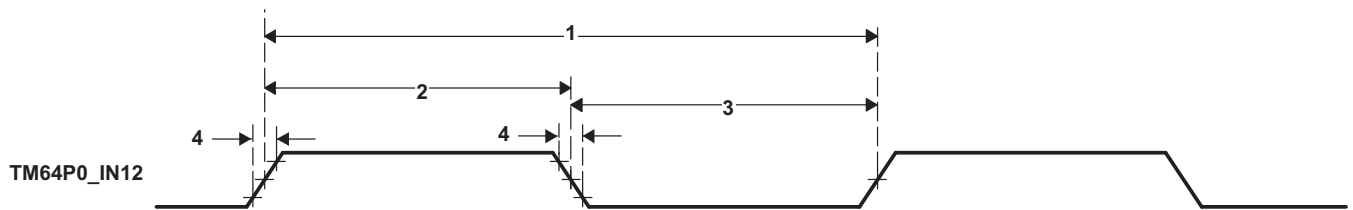

Figure 5-60. Timer Timing
Table 5-84. Timing Requirements for Timer Input(1)(2) (3) (see Figure 5-60)